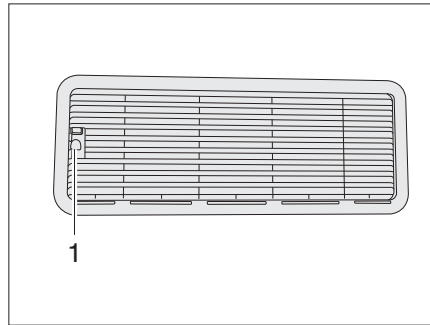
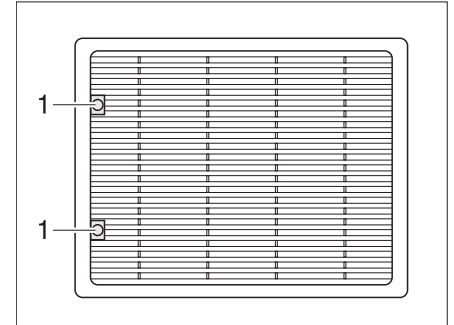

Fig. 109 Refrigerator ventilation grill (Dometic small)
Fig. 110 Refrigerator ventilation grill (Dometic large)
- Press the latch (Fig. 109,1 or Fig. 110,1).